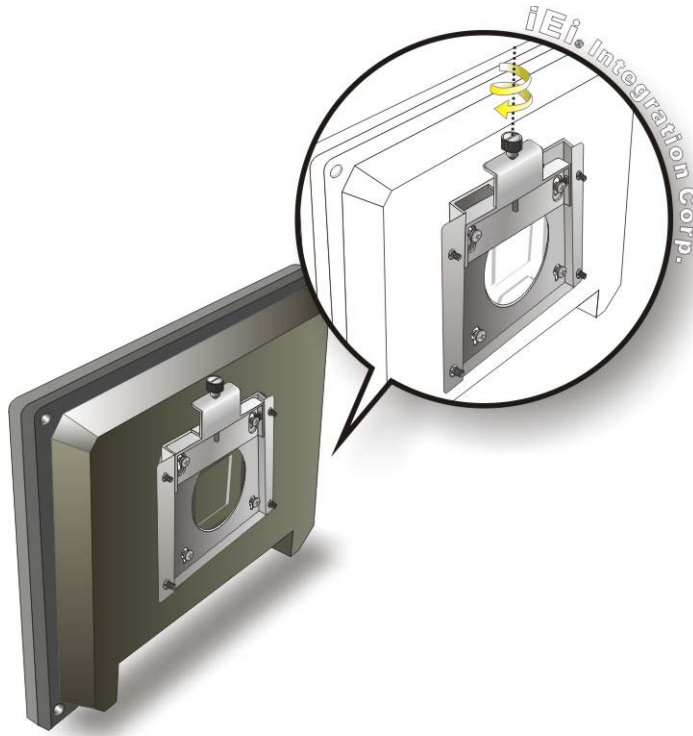

Figure 3-19: Securing the Panel PC
Step 9: Secure the panel PC by fastening the retention screw of the wall-mounting bracket (**Figure 3-19**).